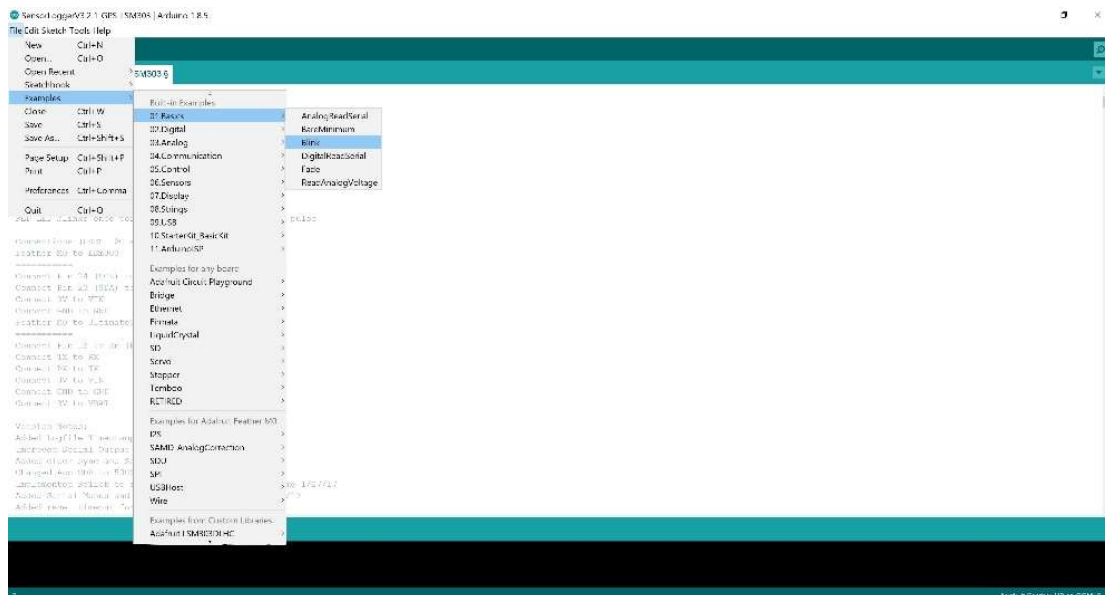

Fig. B2. Open Blink.
- After confirming proper setup, go to File → Examples → Basics → Blink (Fig. B2)